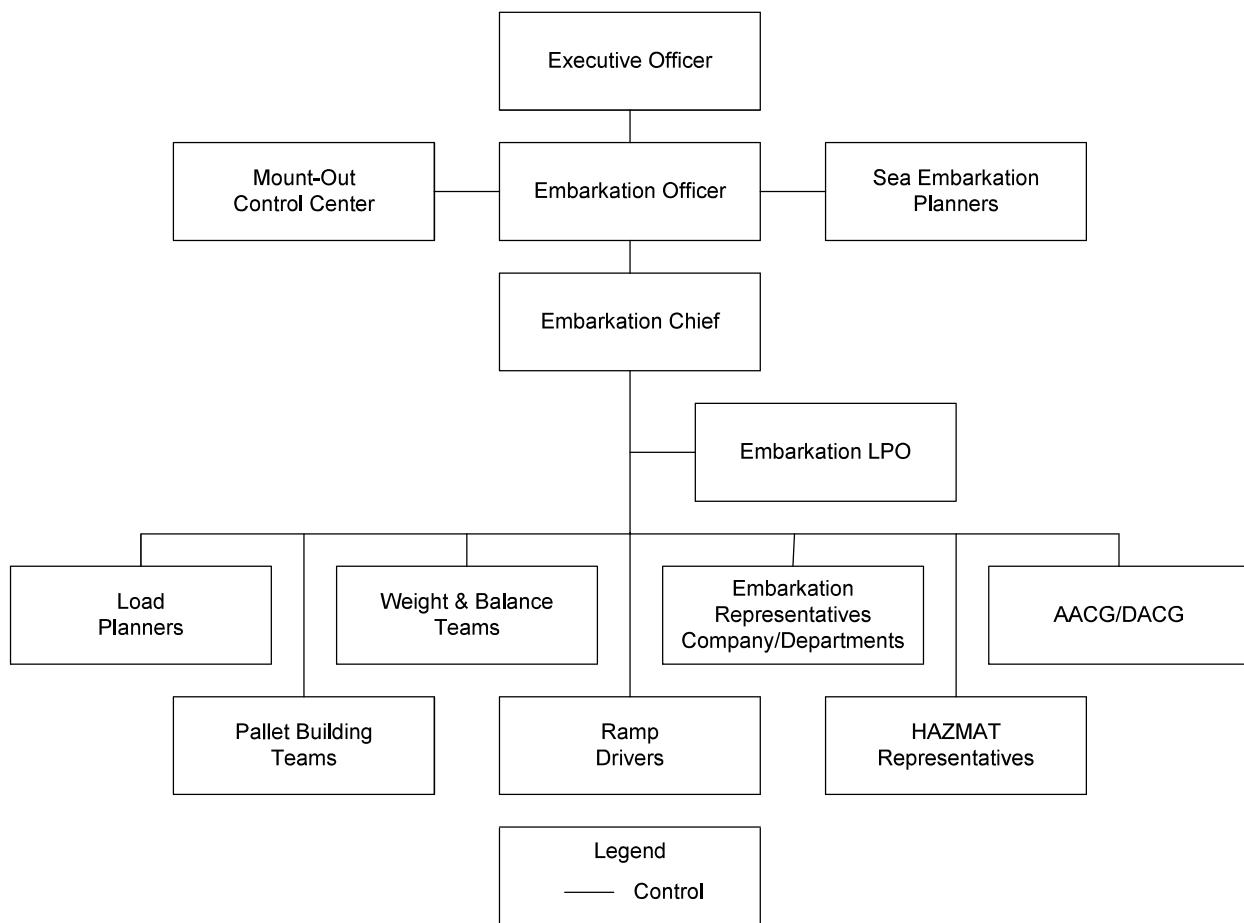

Figure 2-2 — Embarkation organization.
The Air Det can be under the operational control (OPCON) of the battalion commanding officer (CO) or another commander when designated by the command relationship specified by deployment orders; however, administration control (ADCON) for the Air Det usually remains with the battalion. In situation where the Air Det is required to have a standing embark organization, the Air Det's AOIC usually leads the Air Det's embarkation organization shown in *Figure 2-2*.